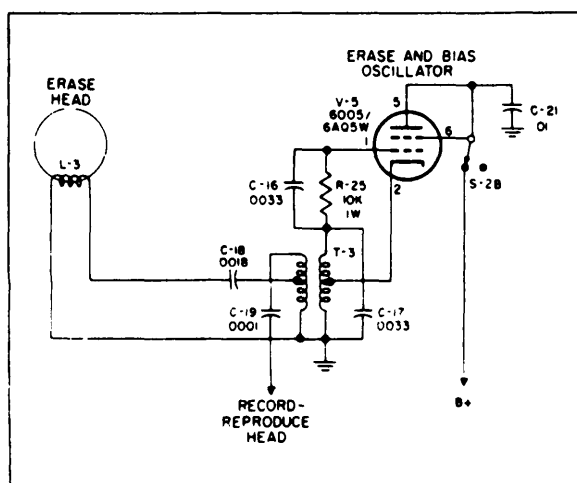

Figure 17. Erase and Bias Oscillator - Schematic Diagram
5.8.2.3 ERASE AND BIAS OSCILLATOR (See figure 17.)